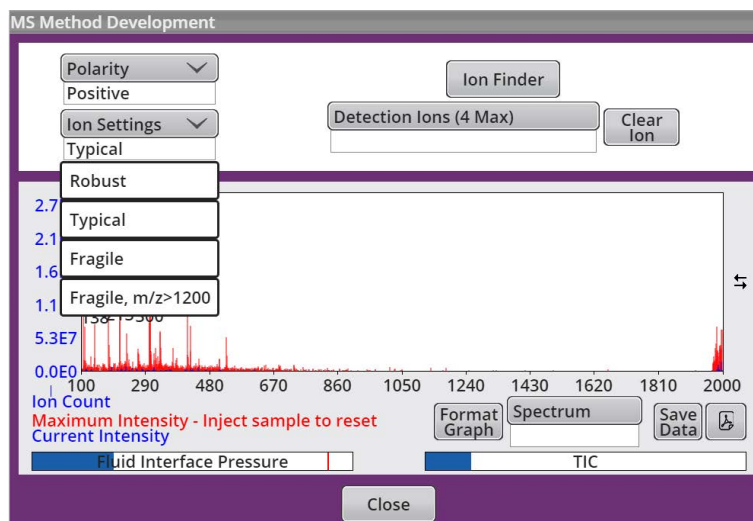

Figure 3-15 Selecting ion settings
- If your compound isn't detected, you can adjust the ionization settings by selecting from the list (Figure 3-15). The factory selections include: